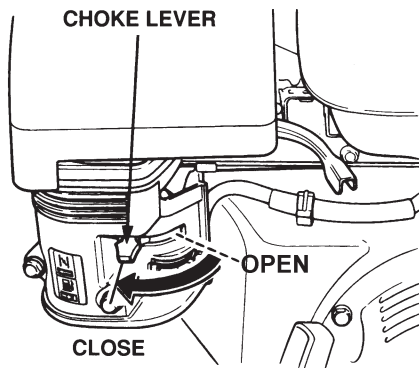

Figure 24. Engine Choke Lever
- Place the **Choke Lever** (Figure 24) in the "CLOSED" position
- If the engine has started, slowly return the choke lever (Figure 24) to the **OPEN** position. If the engine has not started repeat steps 1 through 5.